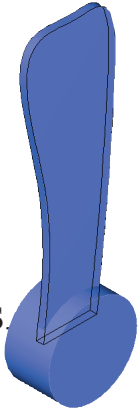

Fig. 17
- Step 4. Click the blade solid and press **ENTER**, **Fig. 17**.